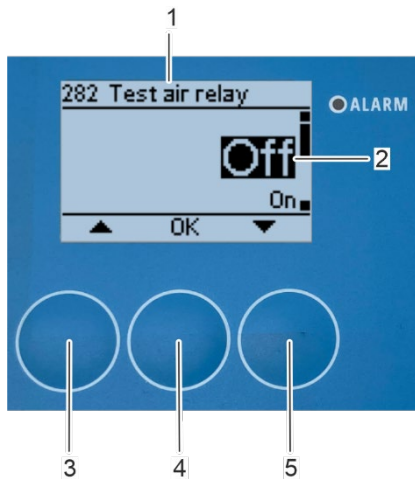

Fig. 148: Switch off compressed air relay
⇒ The "282 Test air relay" submenu (Fig. 148/1) appears on the display.
6. Select "Off" (Fig. 148/2) with the arrow keys [up] (Fig. 148/3) and [down] (Fig. 148/5).
7. Confirm the selection with [OK] (Fig. 148/4).